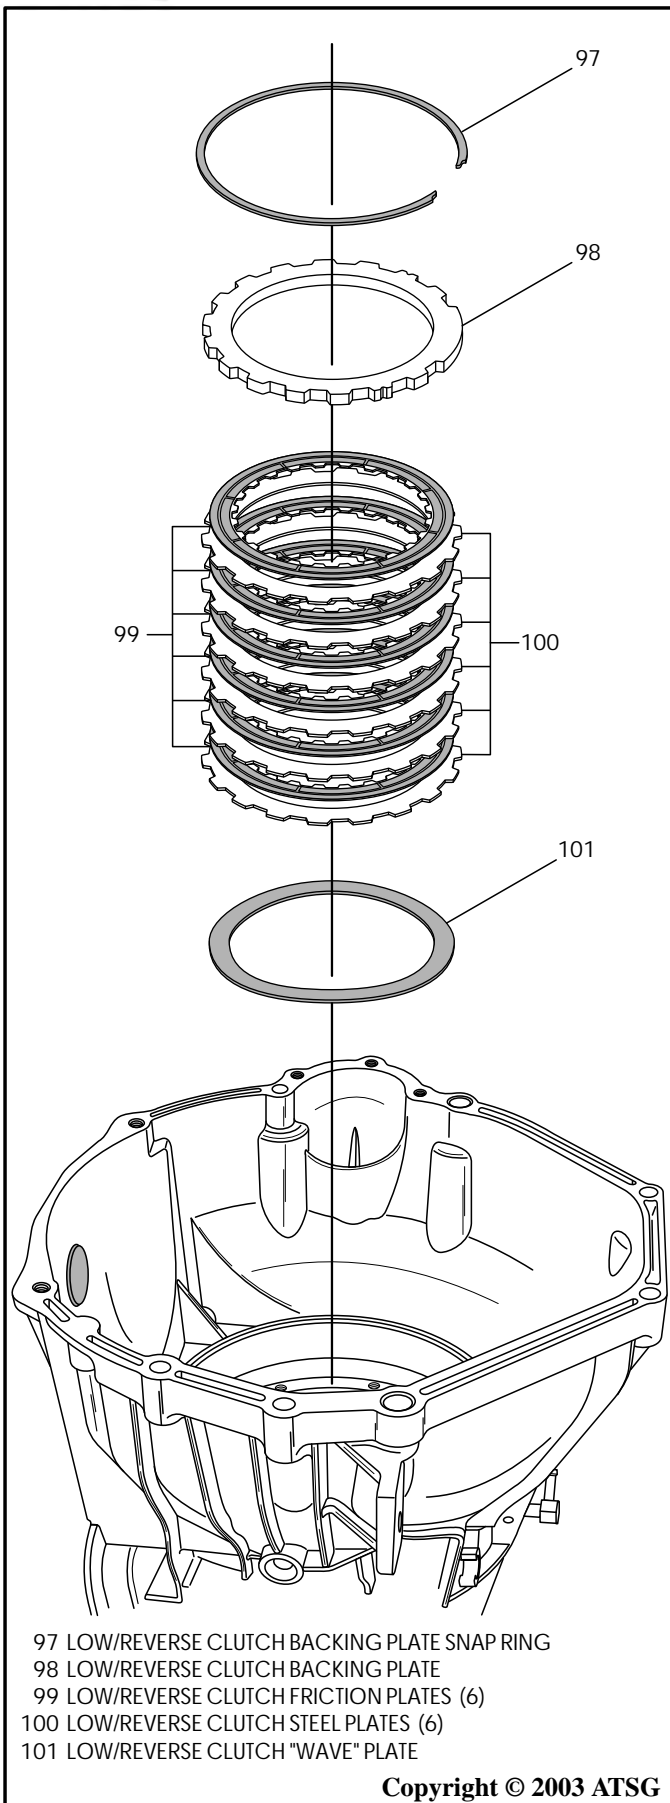

Figure 98
33. Install the reverse clutch "Wave" plate on top of the reverse piston in the case, as shown in Figure 98.
34. Install the reverse clutch pack beginning with a steel plate and alternating with a friction plate as shown in Figure 98, until the proper amount of plates are installed.
35. Install the reverse clutch backing plate on top of the last friction, as shown in Figure 98.
36. Install the reverse clutch backing plate snap ring, as shown in Figure 98, and ensure that it is fully seated in case groove.